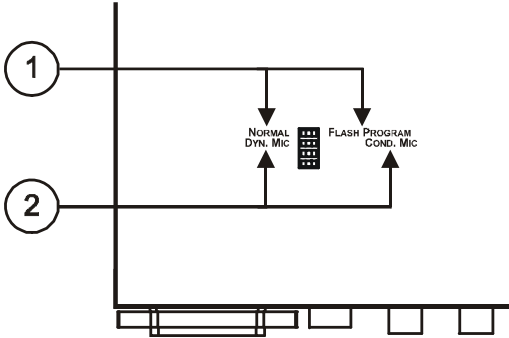

Figure 2: VP-23C Presentation Switcher – Underside View
Figure 2 describes the underside of the **VP-23C**:
Use the COND. MIC / DYN. MIC switch (refer to item 2 in Figure 2) to select a dynamic microphone or a condenser